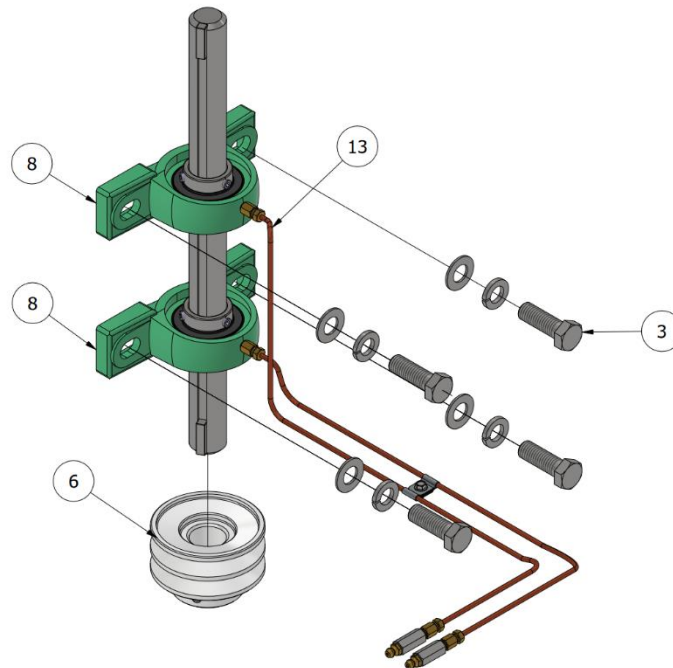

Figure 7 - Exploded View of Bearings with Grease Lines
- Disconnect remote grease lines, shown in Figure 7.
- Re-attach the remote grease lines to the new bearings as shown in Figure 7 and fill with grease.
- Install the fan blade pulley on the shaft as shown in Figure 7, making sure it is properly aligned with the motor pulley. Each pulley should have an 1/8" space next to the fan housing.